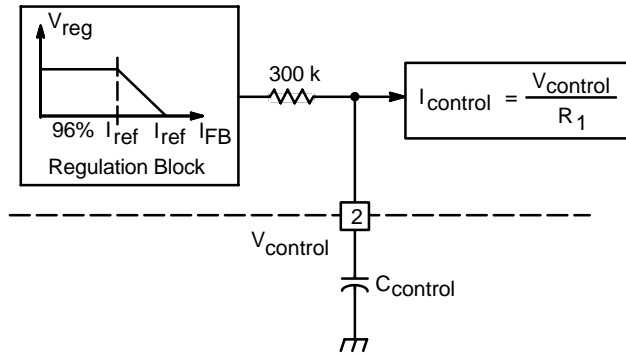

Figure 30.  $V_{control}$  Low-Pass Filtering
Control current  $I_{control}$  is a roughly constant current that comes from the PFC output voltage  $V_{out}$  that is a slowly varying signal. The bandwidth of  $I_{control}$  can be additionally limited by inserting an external capacitor  $C_{control}$  to the control voltage  $V_{control}$  pin (Pin 2) in Figure 30. It is recommended to limit  $f_{control}$ , that is the bandwidth of  $V_{control}$  (or  $I_{control}$ ), below 20 Hz typically to achieve power factor correction purpose. Typical value of  $C_{control}$  is between 0.1  $\mu\text{F}$  and 0.33  $\mu\text{F}$ .
Feedback current  $I_{FB}$  which represents the output voltage  $V_{out}$  is processed in a function with a reference current ( $I_{ref} = 200 \mu A$  typical) as shown in regulation block function in Figure 32. The output of the voltage regulation block, low-pass filter on  $V_{control}$  pin and the  $I_{control} = V_{control} / R_1$  block is in Figure 30 is control current  $I_{control}$ . And the input is feedback current  $I_{FB}$ . It means that  $I_{control}$  is the output of  $I_{FB}$  and it can be described as in Figure 32. There are three linear regions including: (1)  $I_{FB} < 96\% \times I_{ref}$ , (2)  $96\% \times I_{ref} < I_{FB} < I_{ref}$ , and (3)  $I_{FB} > I_{ref}$ . They are discussed separately as follows: